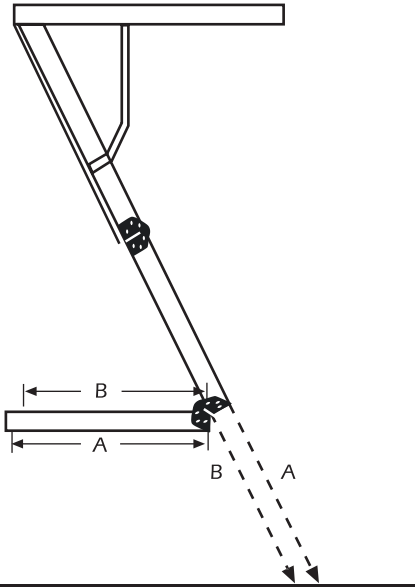

Fig. 8
7. After adjusting the bottom section to fit the floor, have someone stand on the second or third step from the bottom and inspect the side rails to make certain there are no gaps between the hinged sections. All three sections should form a straight line. (See Figures 8 - 10 for correct stair alignment.)
Step 9- Fully extend the folding section of the stairway. Fold the bottom section of the stairway under the middle section, so that the top and middle sections form a straight line (See Fig. 8). Apply pressure on the stairs to ensure the spring arms are fully extended.
Step 10- Place a straight edge on top of the middle section and slide it down until it contacts the floor. Measure the distance from the end of the middle section to the floor (A in Fig. 8). Mark the distance on the A side (front) of the bottom stringer.
Step 11- Place a straight edge on the bottom of the middle section and slide it down until it contacts the floor. Measure the distance from the end of the middle section to the floor (B in Fig. 8). Mark the distance on the B side (back) of the bottom stringer. It is possible for the landing area to be uneven, so repeat this procedure on the other stringer.